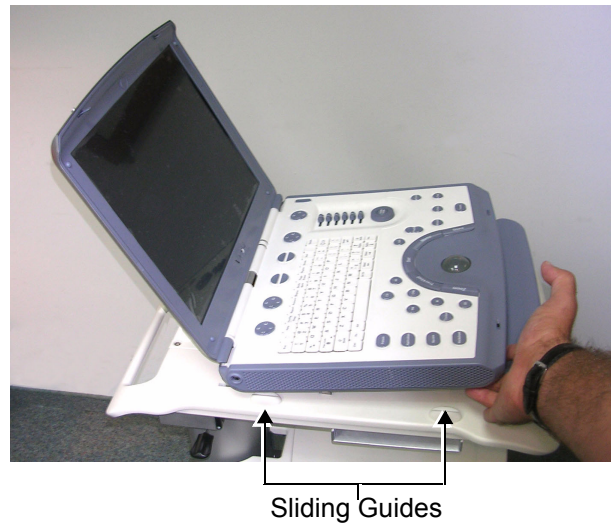

Figure 3-69 Placing the Vivid-q™ on the SafeLock Cart Main Shelf
- 1) Working from the front of the SafeLock Cart, place the Vivid-i™/ Vivid-q™ scanner flat down on the main shelf (towards the front) then slide it *backwards* between the sliding guides on either side of the shelf, as shown in Figure 3-69.